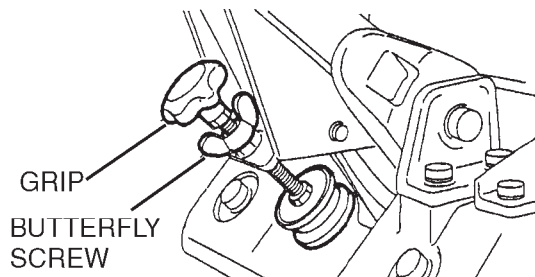

Figure 19. Handle Adjustment
1. Loosen the butterfly screw (Figure 19).